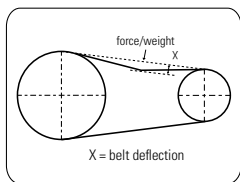

FIGURE 8.4
- Inspect transmission belts and electric motor. To check, remove the belt guard. After inspection, mount the guard with fixing screws (Figure 8.4 and 8.5). Replace belts whenever necessary.